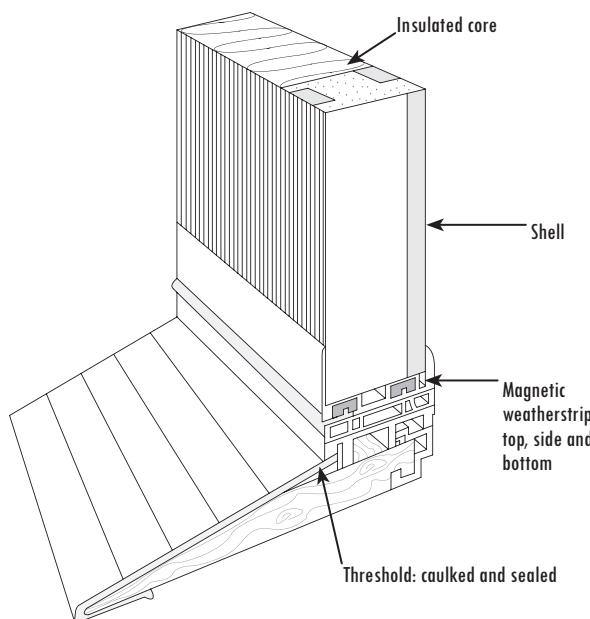

Figure 11-10
- A steel/urethane insulated door with an R-13.8 value (see Figure 11-10) retains approximately 85 percent more heat than a solid core (1 3/4-inch) door. This same steel/urethane door (with no storm door) retains approximately 76 percent more heat than a solid core door *with* a storm door.